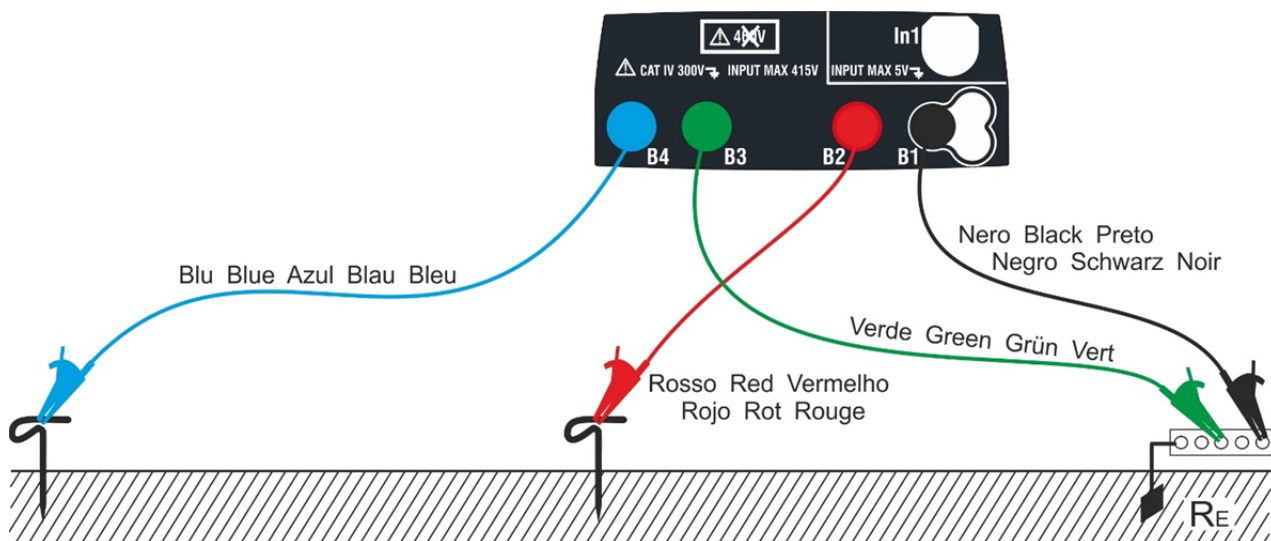
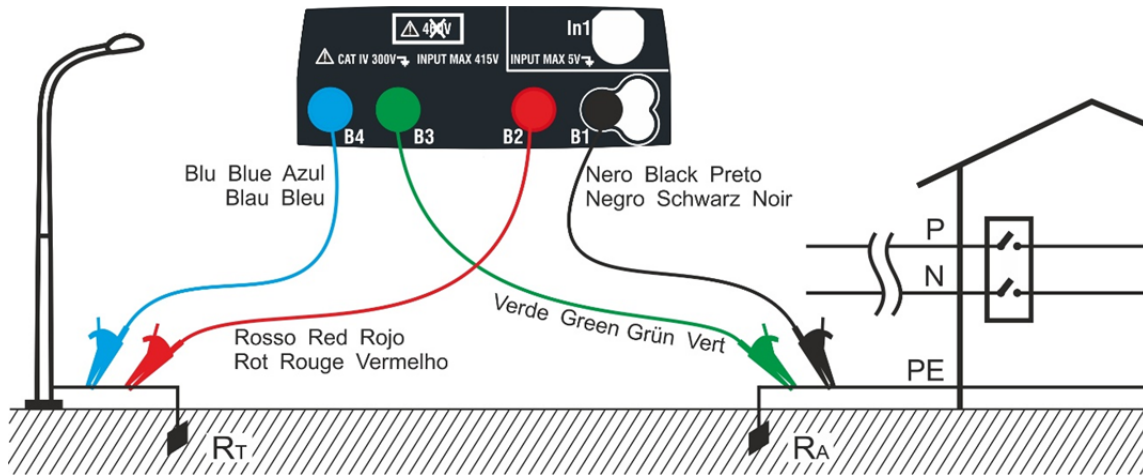
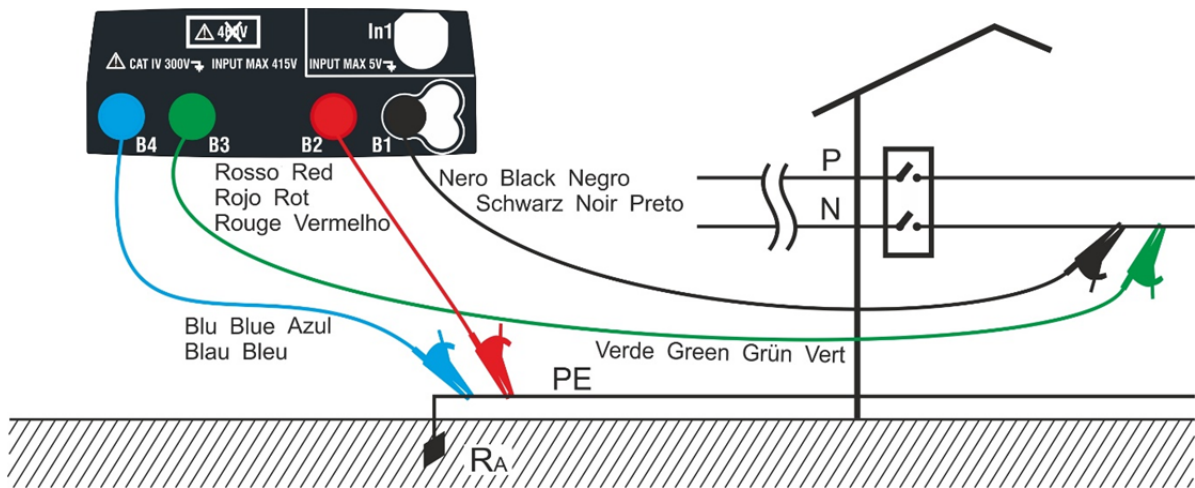

Fig. 28: Three-wire earth resistance measurement
Fig. 29: Two-wire earth resistance measurement using an auxiliary rod
Fig. 30: Two-wire earth resistance measurement from the panel board
- 12 Connect the alligator clips to the auxiliary rods and to the installation under test according to Fig. 28, Fig. 29, Fig. 30 or Fig. 31.